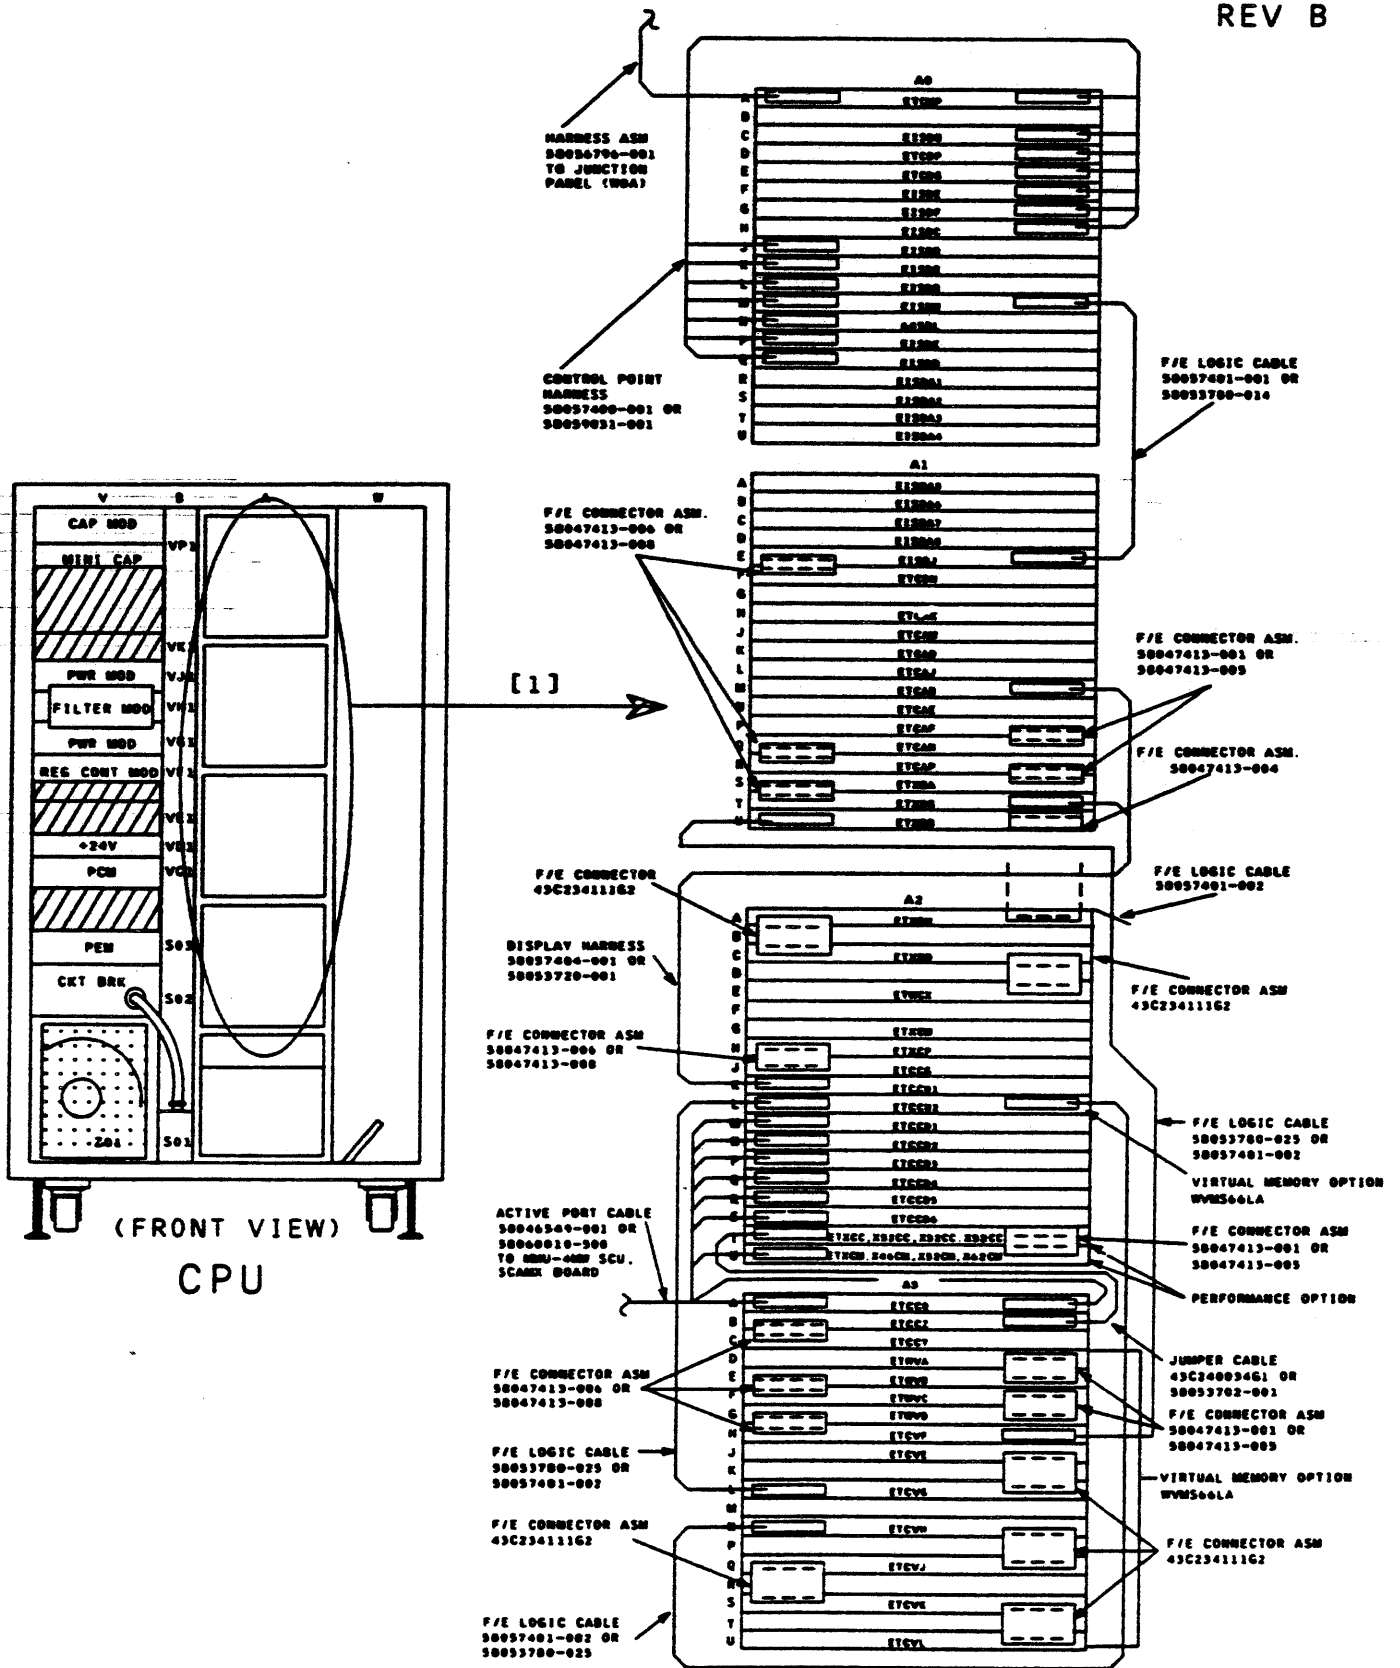

FIGURE 2.4-1. CPU HDUHC PWA REMOVAL/INSTALLATION
4. Using logic board location diagram, identify position of faulty ORU (Figure 2.4-1, [1]).